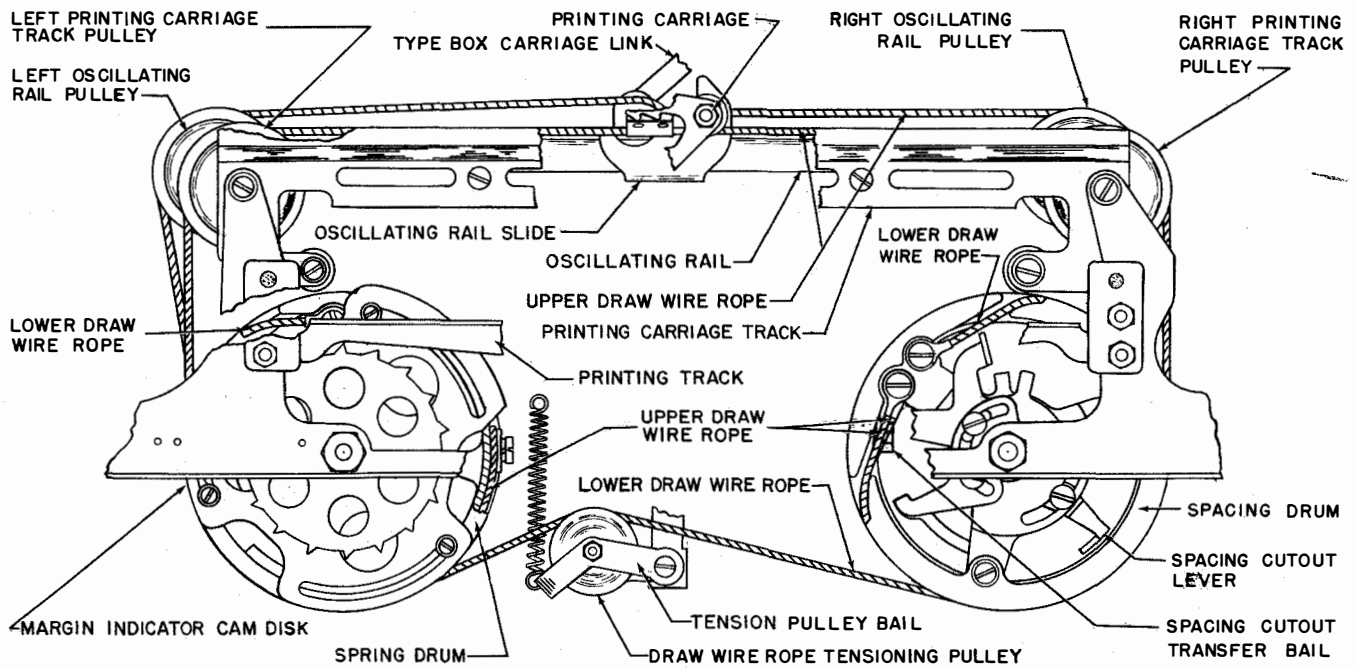

Figure 2-44. Draw Wire Rope Mechanism
end to the spring drum and, at its right end, to the spacing drum. It acts in opposition to the upper draw wire rope and holds the two drums in phase (figure 2-44). A tensioning pulley rides the under side of the lower draw wire rope, to take up any slack which may occur due to stretching of the upper and lower
(1) GENERAL.—To properly space the printed character, the type box and printing carriages must be advanced with each character printed. As was shown in paragraph 4.e.(2)(a) of this section and in figure 2-44, the carriages are connected to a draw wire rope which, in turn, is fastened to the spring drum and the spacing drum. The purpose of the spring drum which
(2) SPACING SUPPRESSION.—When certain functions are selected or when the carriages reach their extreme right position, it is necessary to suppress spacing. This is accomplished by moving the spacing suppression slide forward. In this position, it will hold the upper end of the spacing trip lever forward and prevent it from engaging the spacing clutch trip lever arm. In the case of spacing suppression on functions, the spacing suppression slide is shifted by means of the spacing suppression bail. The manner in which this bail is operated will be discussed under FUNCTIONS. When the carriages are near their extreme right position, an adjustable cutout lever on the spacing drum, engages the spacing cut-out transfer bail, which in turn operates the spacing cut-out bail. The adjustable spacing cut-out lever and the end of the spacing cut-out transfer bail are shown in figure 2-44. The spacing cut-out bail shifts the spacing suppression slide and prevents spacing until the carriages are returned. The maximum number of characters which the Automatic Typewriter may print is eighty-five. In order to prevent spacing beyond this point with subsequent damage to the machine, several teeth are omitted from the spacing drum ratchet wheel.
g. MARGIN INDICATOR.—Before the type box carriage and the printing carriage reach the end of their travel, the margin indicator light I-751 in the Cabinet is illuminated. The contact mechanism which controls the lamp circuit is mounted on the Keyboard and is fully described in paragraph 3.k. of this section. The actuator of this contact mechanism is a disk which is mounted on the spring drum of the Automatic Typewriter (figure 2-44). The angular position of this cam disk with respect to the spring drum may be altered to change the point at which the indicator will light.